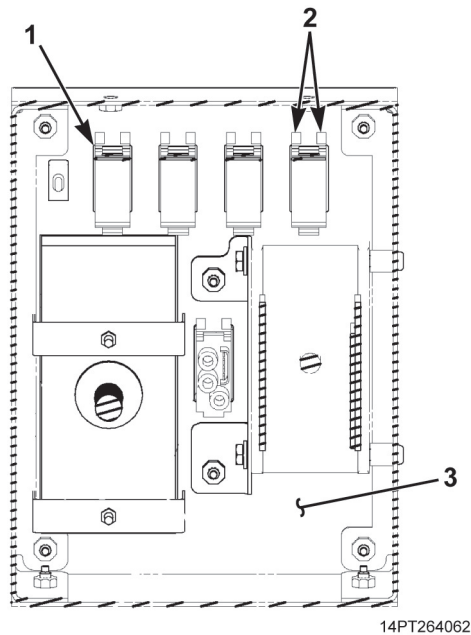

Figure 2. MCS Switch Removal.
2. Disconnect wire lead at faulty switch (Figure 2, Item 1).
3. Depress two tangs (Figure 2, Item 2) on switch (Figure 2, Item 1) and remove switch through top of shift tower cover (Figure 2, Item 3).